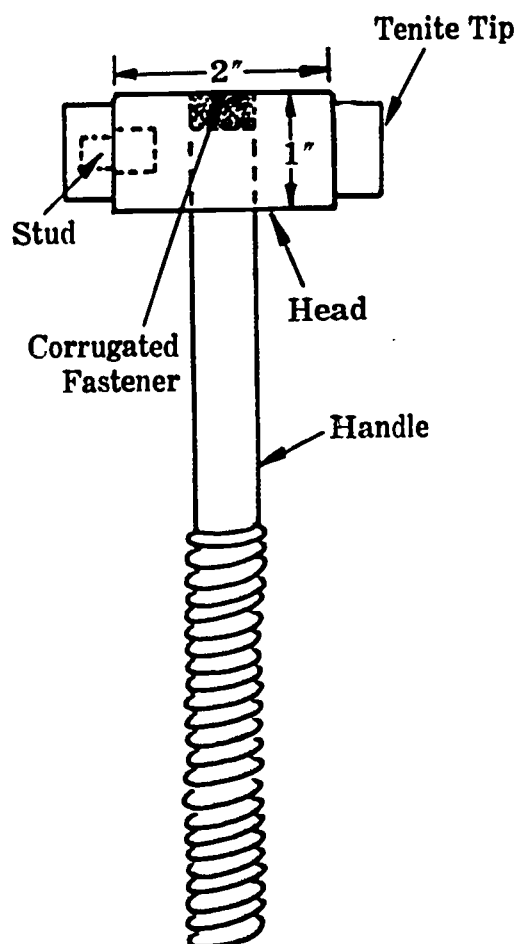

Fig. 68-1. Completed Mallet
2. Study Fig. 68-1. It shows a completed mallet.